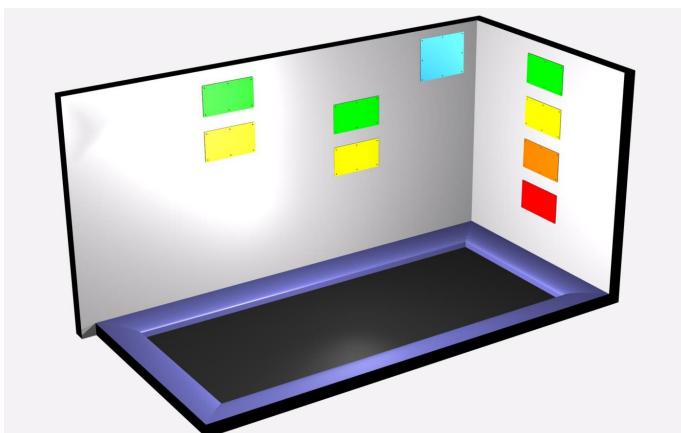

Figure 3.4.1: A Possible WallRider Layout
- Works well having targets 1 to 4 on the front wall in a line and side targets 5 to 8 spread evenly across one or two side walls. (**See figure 3.4.1 – 3.4.4 for possible layouts**)